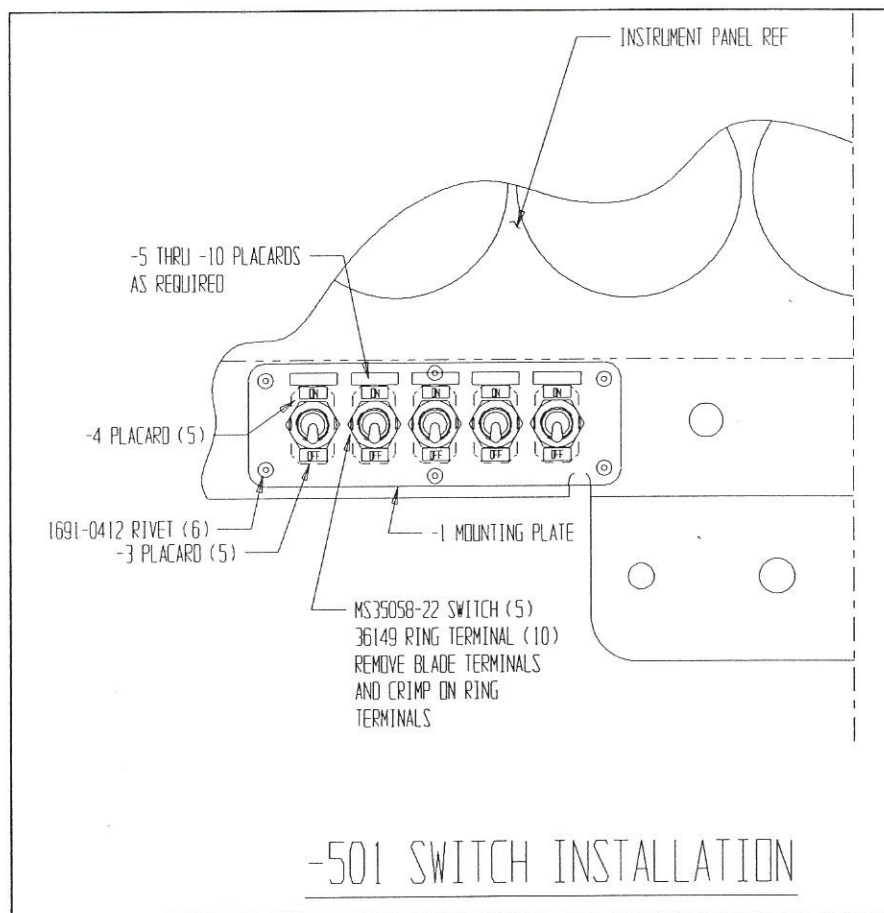

Figure 2
7. Attach the FA102312-1 mounting plate to the instrument panel using the rivets provided (see **Figure 2**).
9. Affix the placards provided as shown in **Figure 2**.